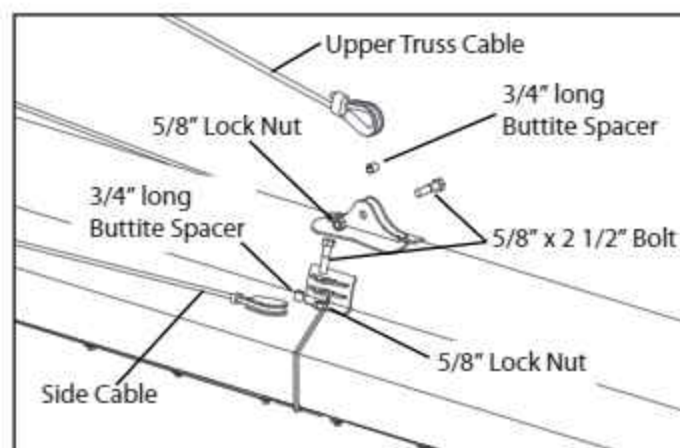

FIG. 3-25. Truss Cable Mounting
3. Attach the looped end of the 49' truss cable to the top end of the tube and the two 47' cables to the sides of the tube, as shown in Fig. 3-25.
3. Attach the looped end of the 1/2" x 60' truss cable to the top end of the tube and the two 3/8" x 61' cables to the sides of the tube, as shown in Fig. 3-25.
4. Attach the looped end of the 1/2"x 69' truss cable to the top end of the tube and the two 3/8" x 68' cables to the sides of the tube, as shown in Fig. 3-25.